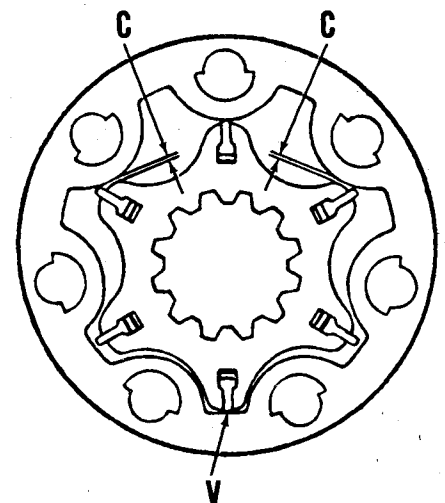

Fig. 28—With rotor positioned in stator as shown, clearances (C) must not exceed 0.15 mm (0.006 inch). Refer to text.
Position lobe of rotor in valley of stator as shown at (V— Fig. 28). Center opposite lobe on crown of stator, then using two feeler gages, measure clearance (C) be-